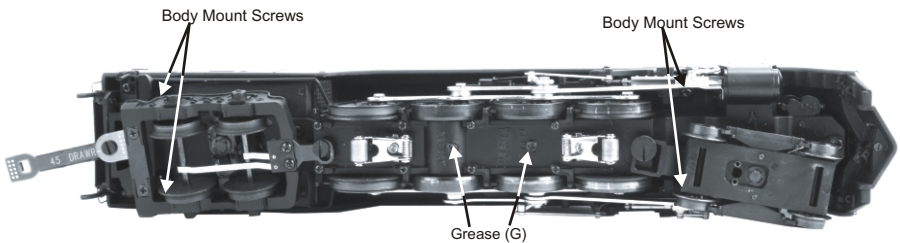

Figure 9. Removing the Body and Lubricating the Grease Points
2. Remove the Phillips screws (marked “GREASE”) located at each set of wheels and under pickup rollers (Fig. 9).
1. Remove the body mount screws as shown in Fig9 (Page 14) and separate the boiler from the chassis.
If you experience poor or no smoke output when the smoke unit is on and has fluid, check the wick to see if it has become hard, blackened, and unabsorbent around the heating element. To remove the smoke unit you will first have to remove the boiler shell (by removing the body mounting screws shown in Fig 9 on pg. 14), board and bracket that block the smoke unit assembly from being accessed. To do this, follow these instructions: